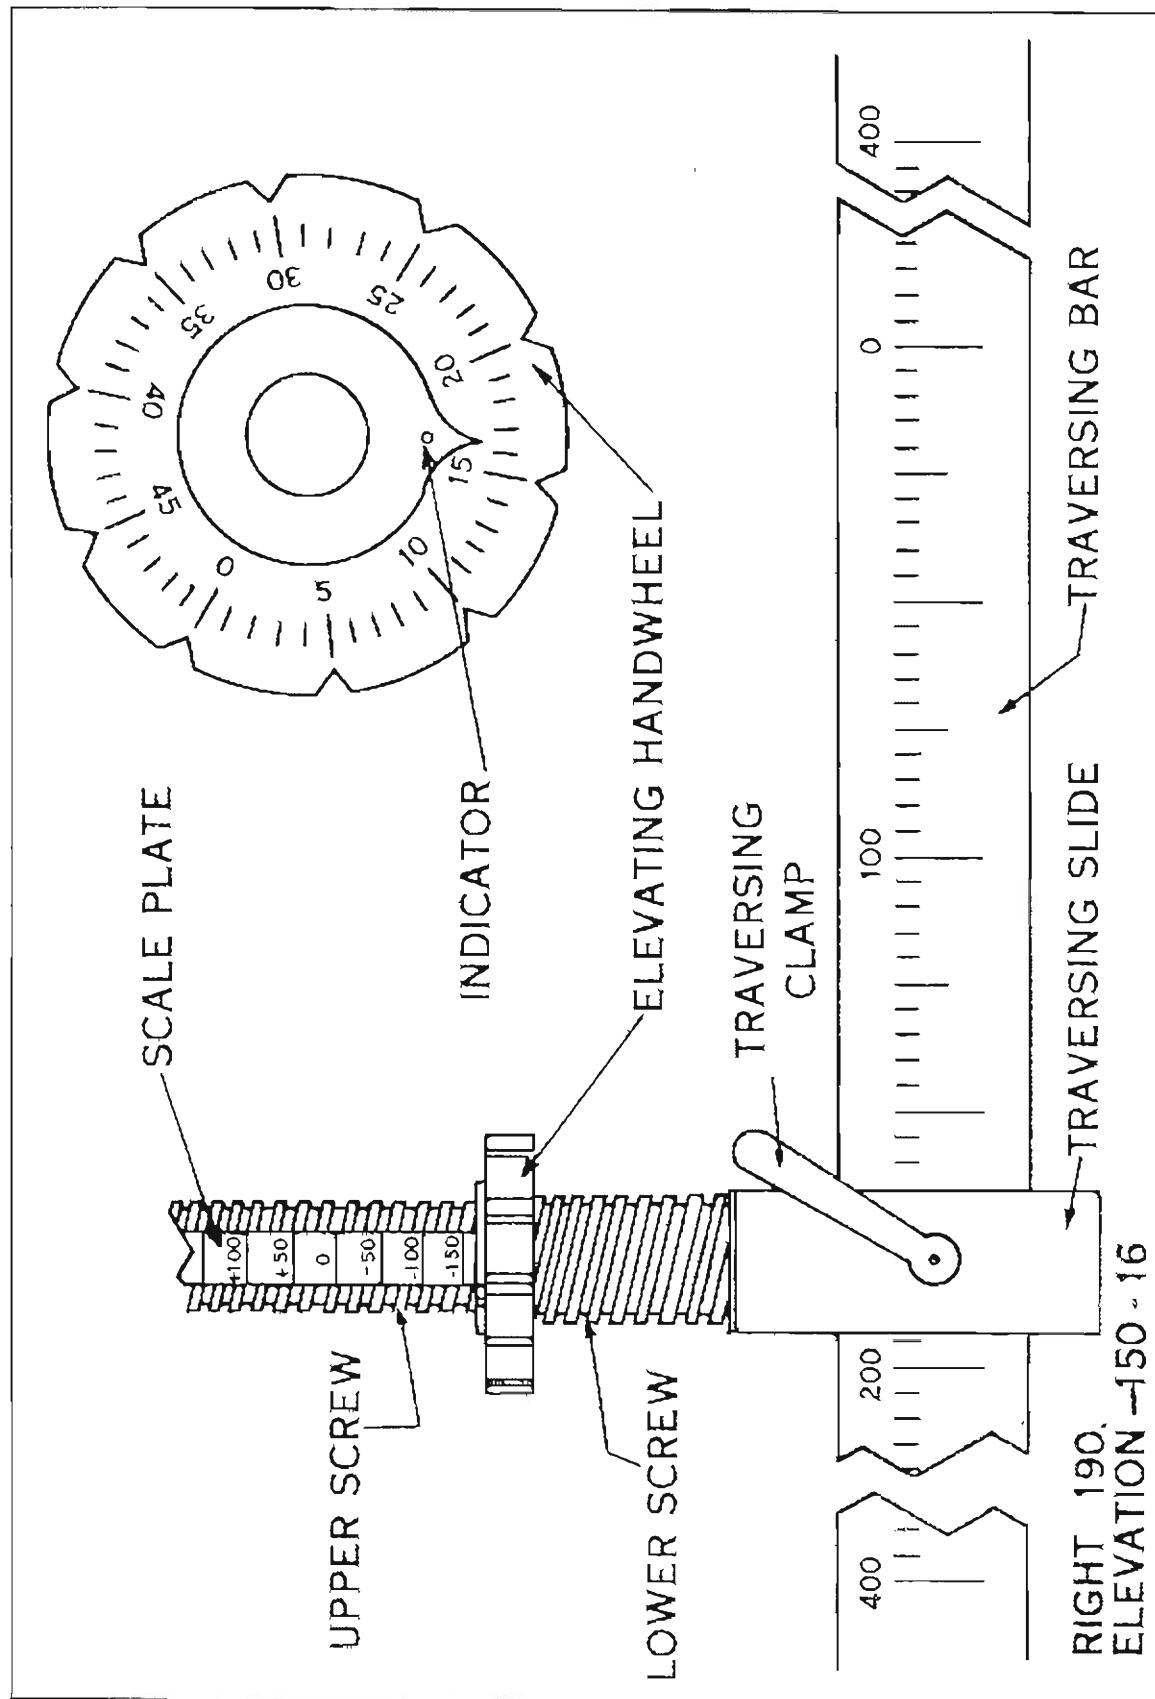

Figure 22
- (1) Estimate the range and set it off in the sight.
- (2) Lay the gun on the target.
- (3) Record the information.
79. RECORDING THE INFORMATION.--a. General.--(1) The gunner must be thoroughly familiar with the operation of the traversing and elevating mechanisms (fig. 22).
c. Reading elevation.--(1) Look at the brass scale in the upper screw, and take the number that appears just above the lowest line visible on the screw.
- (2) Read the number pointed to by the indicator on the hand-wheel.
- (3) The figures are read in the above order. Thus the reading shown in fig. 22 would be: Minus 150 dash 16. The complete information appearing in fig. 22 would be: Right 190; minus 150 dash 16.